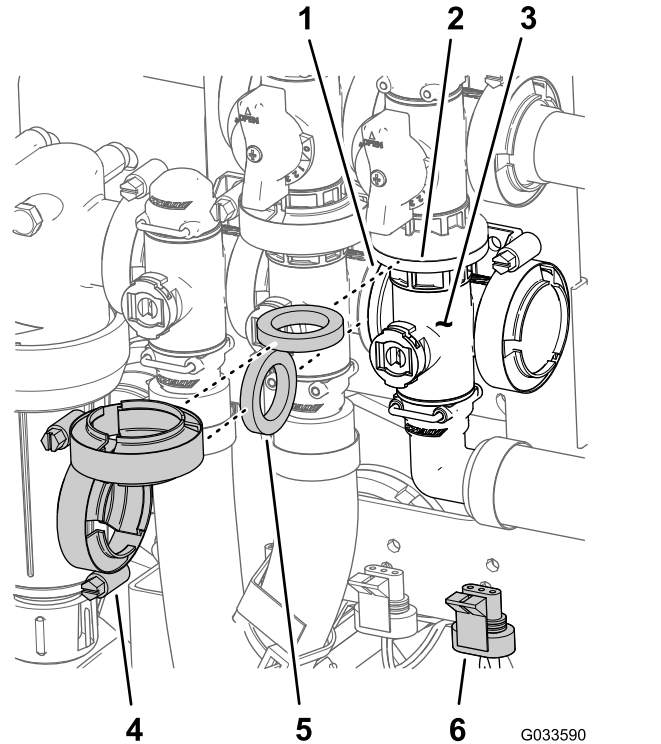

Figure 129
1. Align the flange of the master-boom-valve manifold, a gasket, and the flange of the master-boom bypass valve (Figure 129).
2. Assemble the master-boom valve manifold, gasket, and master-boom bypass valve with a flange clamp tightened hand tight (Figure 129).
3. Align the flange of the master-boom-valve manifold, a gasket, and the agitation-valve manifold (Figure 129).
4. Assemble the master-boom-valve manifold, gasket, and agitation-valve manifold with a flange clamp and tighten by hand (Figure 129)
- Assemble the agitation valve to the valve mount with the flanged-head bolt and flanged locknut (Figure 129) that you removed in step 3 of Removing the Master Boom Manifold Valve \(page 80\), and torque the nut and bolt to 10 to 12 N·m (90 to 110 in-lb).